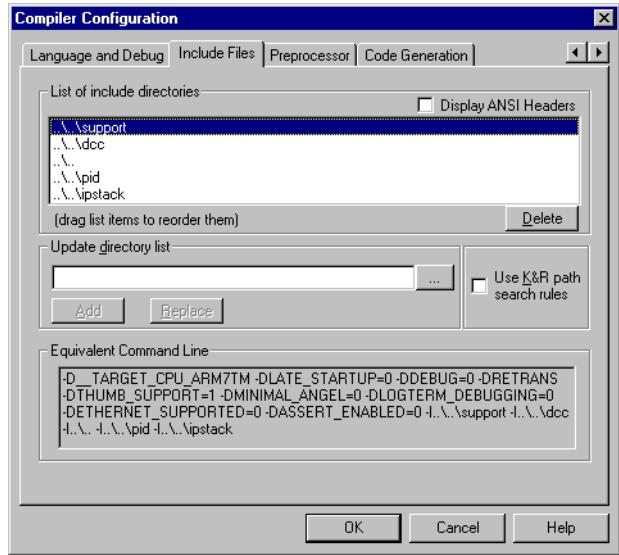

Figure 13-10 Compiler Configuration
10. Select **Project → Tool Configuration → <cc> = armec → Set**. The Compiler Configuration dialog is displayed (Figure 13-10 on page 13-55).